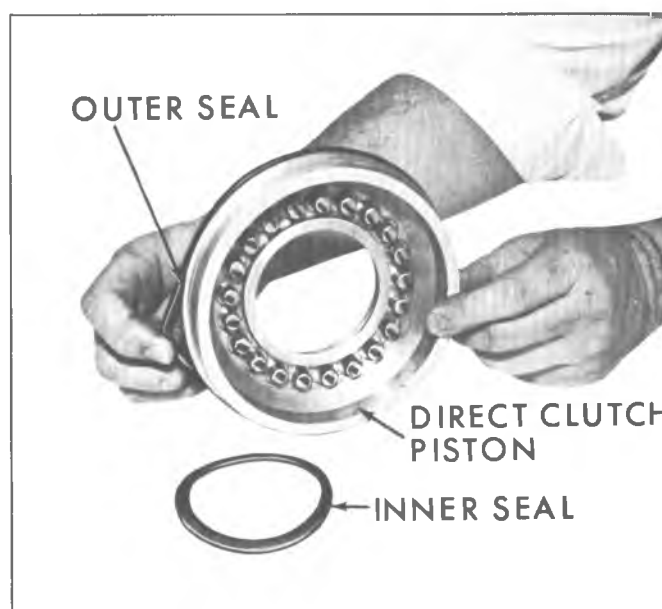

Fig. 73M--Removing Direct Clutch Outer and Inner Seals
9. Remove direct clutch piston outer seal and inner seal (fig. 73M).